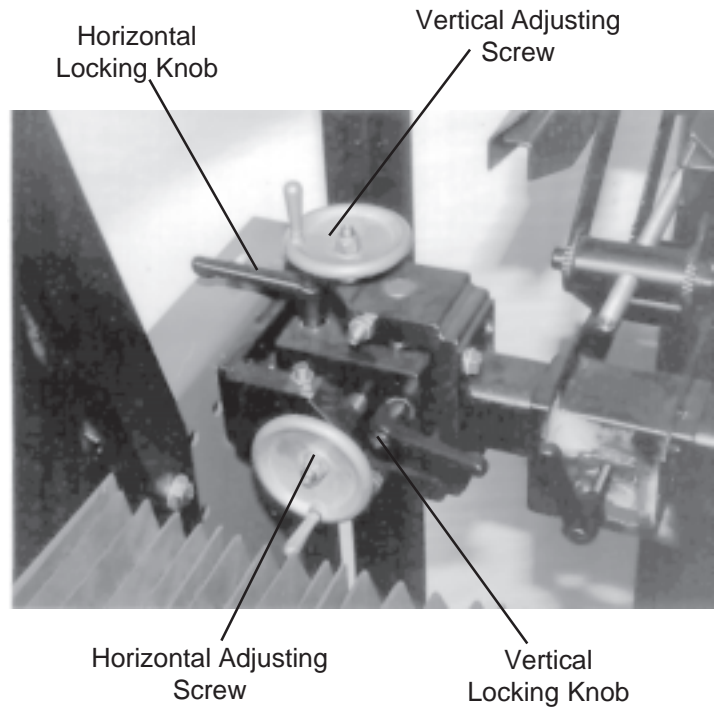

FIG. 35
- C. Loosen the two locking knobs on the pivot assembly on the left side of the square mounting bar so that it can be adjusted in both the vertical and horizontal plane. See FIG. 35.
- E. If the left side is lower than the right, turn the vertical adjusting screw in the pivot assembly clockwise raising the mounting bar and the reel until the center shaft of the reel lightly touches the extended indicator rod. See FIG. 35.